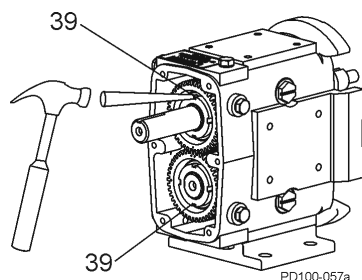

Figure 61 - Bend Lock Tab on Lockwashers
7. Bend the locking tab on the lockwashers into the locking nut slots, securing the gear locknut into place (Figure 61).